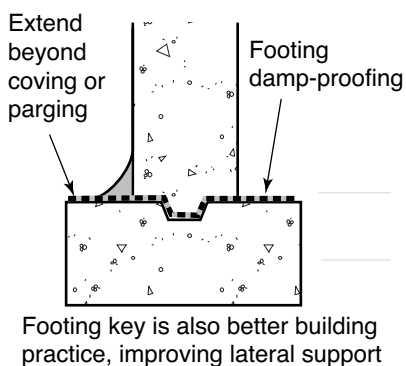

FIGURE 28
- ◆ To prevent wicking of soil moisture up through the footing to the foundation wall, install damp-proofing materials over the footing before you pour the wall. Ensure that adequate bonding is maintained between the wall and the footing key (see Figure 28).